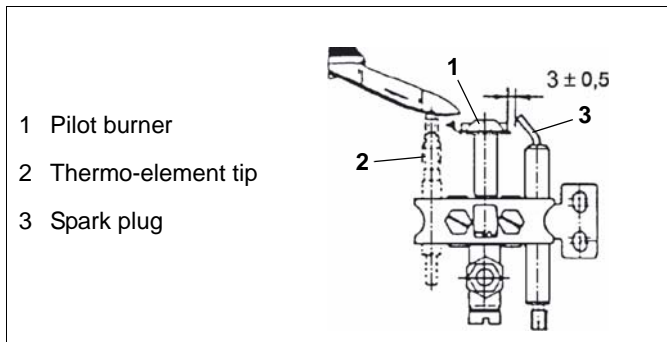

Fig. 16 Pilot burner
To ensure perfect burner ignition, the spark plug (3 / Fig. 16) and the pilot burner (1 / Fig. 16) must be kept clean and dry.
- ⇒ Clean the pilot burner slots (1 / Fig. 16) carefully.
- ⇒ Do not use abrasive paper to clean the tip of the thermo-element (2 / Fig. 16). The sensor must be free of cracks.
- ⇒ The distance between the spark plug (3 / Fig. 16) and the pilot burner (1 / Fig. 16) should not be greater than 3 ± 0.5 mm, or the ignition will not operate perfectly.